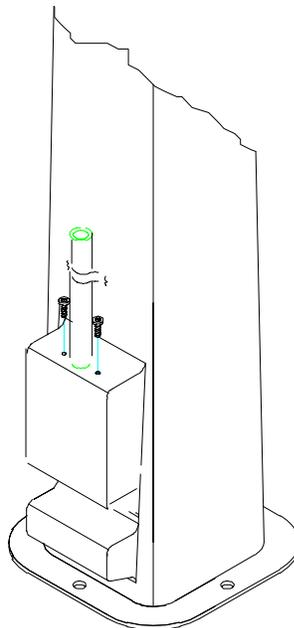

FIGURE 1. BIN THERMOSTAT INSTALLATION
9. Remove the flaker front panel. Position the bin thermostat in place and install the hold down screws as shown in Figure 1.